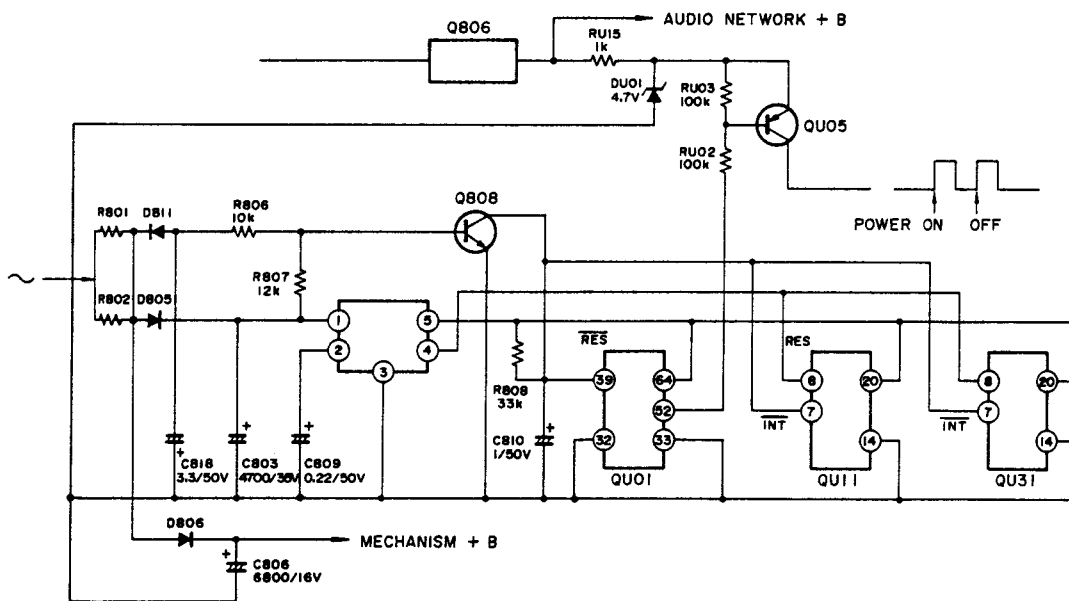
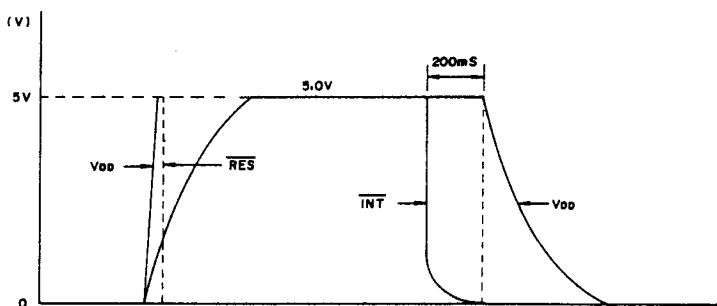

Figure 4
Figure 5
Figure 5 shows the leading and trailing characteristics of each VDD,  $\overline{\text{INT}}$  and  $\overline{\text{RES}}$  pin of the feature control microprocessor (QU01), mechanism control microprocessor (QU11, QU31), and figure 4 shows its diagram. Each timing is important for the normal function the microprocessors.
- ★ When operation (1) does not function (when head chassis is not in the stop position):
a) Check the waveform of QU11 pin ⑥.
b) Check the rising characteristics of VDD,  $\overline{\text{INT}}$  and  $\overline{\text{RES}}$ . When they go high with the rising characteristics shown in Fig. 5, they are normal.
- ★ When operation (2) does not function:
a) When the tape running direction indicator is not lit, check the display PC board and surrounding wiring, etc. When the indicator does not blink after four seconds with the tape loaded, check that QU11, QU31 pin ⑩ is low with the tape loaded. (When the power is turned on, the initial condition of the mechanism is transmitted to the feature micro-processor.)
b) When the forward direction indicator (▷) lights in spite of the head being in the reverse direction, check the wiring of FWD/REV switch, etc. QU11, QU31 pin ⑨ is low when in reverse mode.
- ★ When operation (3) does not function: